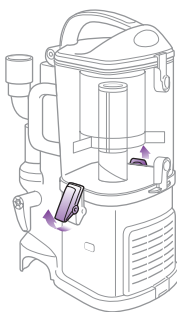

Fig. 18
- 1 Undo the latches on the sides of the dust cup by lifting them up and outwards to remove the dust cup from the motor base. **(Fig. 18)**